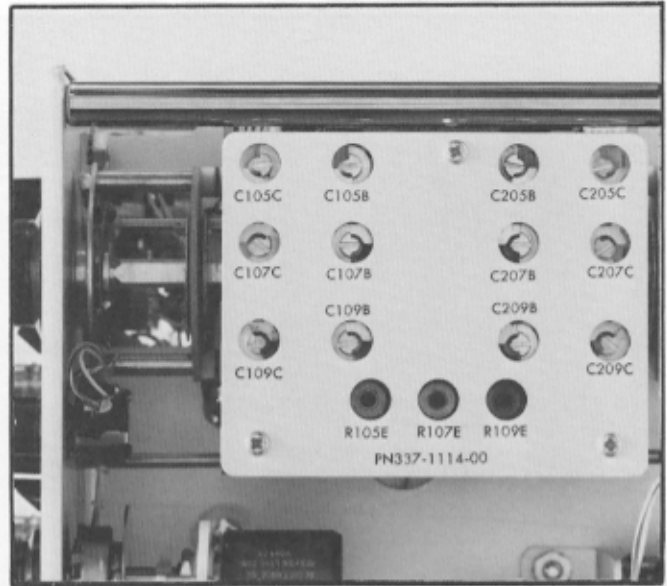

Fig. 5-20. Location of controls.
- g. ADJUST—R205, R207 and R209 (see Fig. 5-20) for optimum differential balance as shown in Table 5-4.
a. Test equipment is shown in Fig. 5-20.